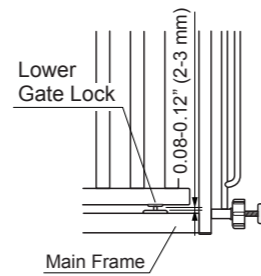

Figure 4
- Tighten Adjuster Knob at the space between Main Frame and Lower Gate Lock to 0.08-0.12"(2-3 mm) so that the tension spring effect works properly (Fig. 4).
- Tighten the Upper Adjuster Knob on side of gate opposite to Upper Gate Lock until the space between the Main Frame and the Lower Gate Lock is 0.08-0.12" (2-3 mm) (Fig. 4).
- Apriete la perilla de ajuste del espacio entre el marco principal y el cerrojo inferior de la entrada hasta un espacio de 2 a 3 mm (0,08 a 0,12"), de modo que el efecto de resorte tensor funcione adecuadamente (Fig. 4).